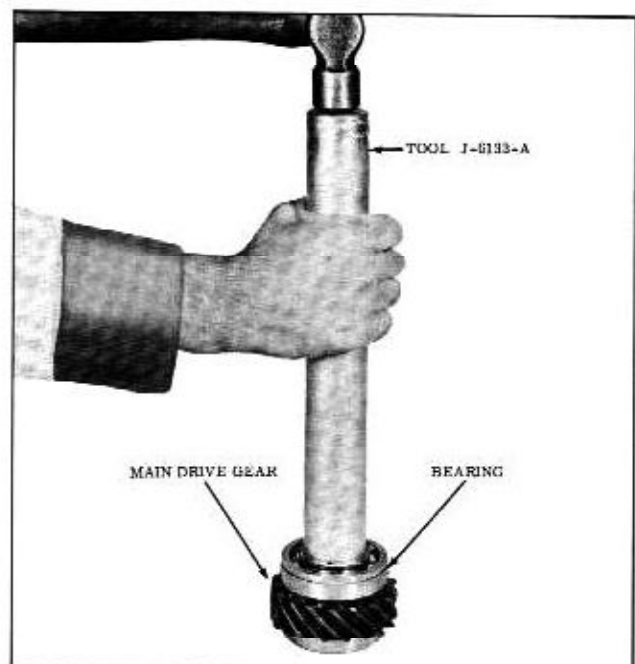

Fig. 11-22 Installing Bearing
5. Install the main drive gear bearing on the shaft, shielded side toward gear with Tool J-6133-A. (Fig. 11-22)